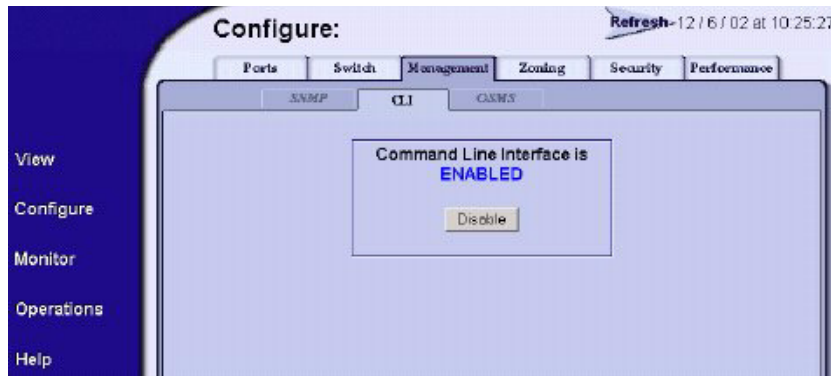

Figure 50: Management page—CLI tab
1. At the Configure window, click the **CLI** tab. The **Management** page displays with the **CLI** tab selected, as shown in Figure 50.